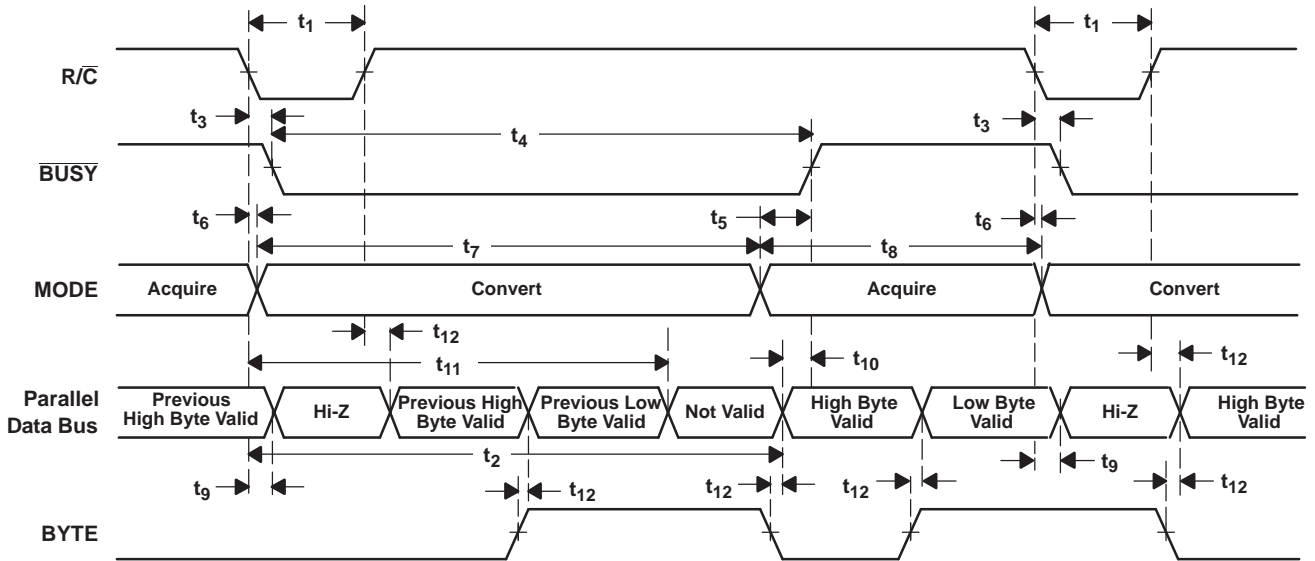
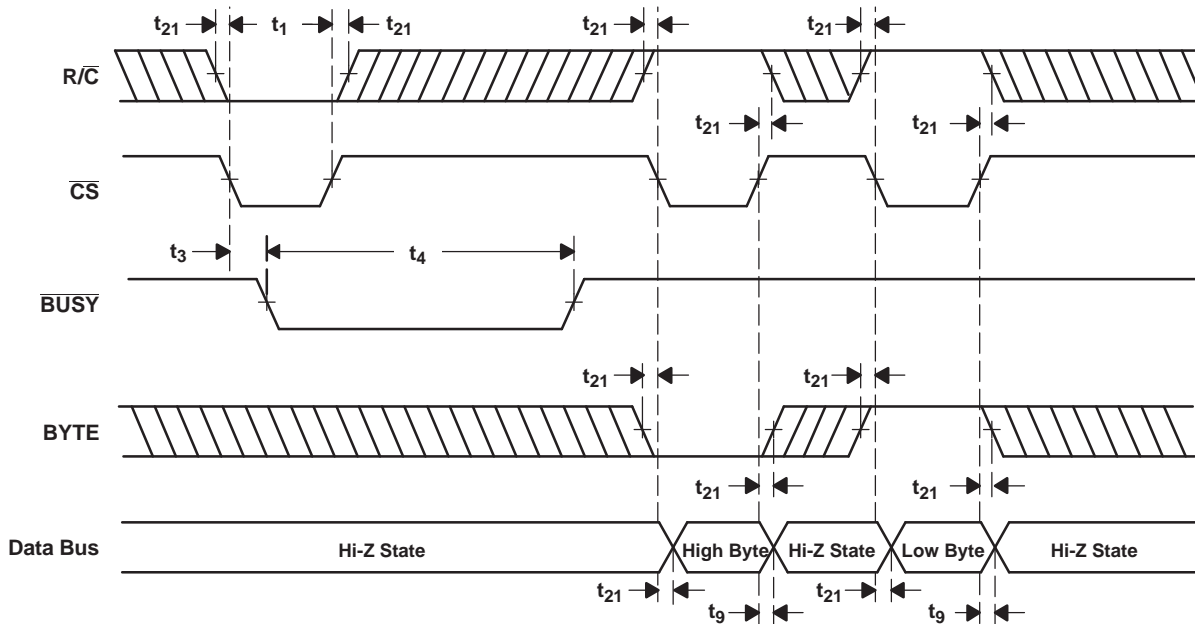

Figure 33. Conversion Timing With Parallel Output ($\overline{\text{CS}}$ and DATACLK Tied Low, EXT/INT Tied High)
Figure 34. $\overline{\text{CS}}$ to Control Conversion and Read Timing With Parallel Outputs
The ADS8506 begins tracking the input signal at the end of the conversion. Allowing 25 μ s between convert commands assures accurate acquisition of a new signal. Refer to Table 2 and Table 3 for a summary of \overline{CS} , R/\overline{C} , and \overline{BUSY} states, and Figure 33, Figure 34, Figure 35, Figure 36, Figure 37, Figure 38, and Figure 39 for timing diagrams.
(1) See Figure 33 and Figure 34 for constraints on data valid from conversion $N-1$.
After conversion *N* is completed and the output registers have been updated, $\overline{\text{BUSY}}$ (pin 24) goes high. Valid data from conversion *N* is available on D7-D0 (pin 9-13 and 15-17). $\overline{\text{BUSY}}$ going high can be used to latch the data. Refer to Table 5 and Figure 33 and Figure 34 for timing specifications.
After conversion N has been initiated, valid data from conversion $N-1$ can be read and is valid up to $12\ \mu\text{s}$ after the start of conversion N . Do not attempt to read data beyond $12\ \mu\text{s}$ after the start of conversion N until $\overline{\text{BUSY}}$ (pin 24) goes high; this may result in reading invalid data. Refer to Table 5 and Figure 33 and Figure 34 for timing constraints.